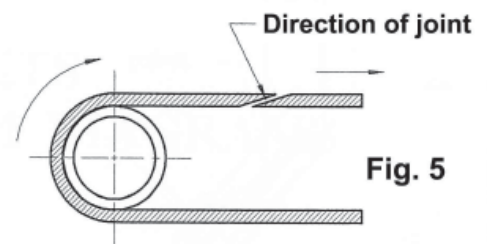

Fig. 5
- When mounting be sure to note the rotation direction for the position of the belt joint (**Fig. 5**). The direction of the belt is indicated on both the inside and outside of the belt.